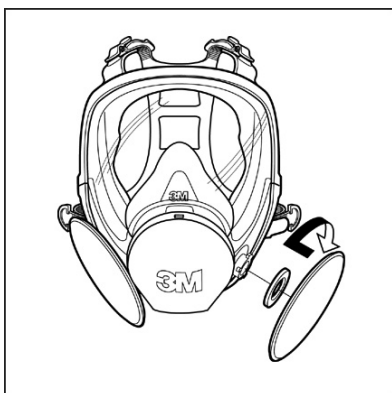

Fig. 2
3. Repeat for second filter. (Fig. 2)